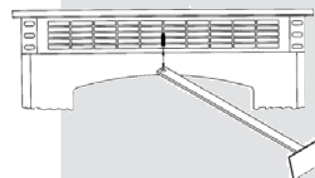

FIGURE 22
- With the door closed clean heat exchanger tubes. (See “CLEANING” and Figure 22).
- Clean heat exchanger tubes (see “CLEANING” and Figure 22).
- Heat Exchange Tubes** – Your stove is designed with a built-in heat exchange tube cleaner. This should be used every two or three days to remove accumulated ash on the tubes, which reduces heat transfer on this unit. Insert the handle end (with hole) of the cleaning tool onto the cleaning rod (refer to figure 22). The cleaner rod is located in the grill above the stove door. Move the cleaner rod back and forth several times to clean the heat exchanger tubes. Be sure to leave tube cleaner at the rear of the stove.